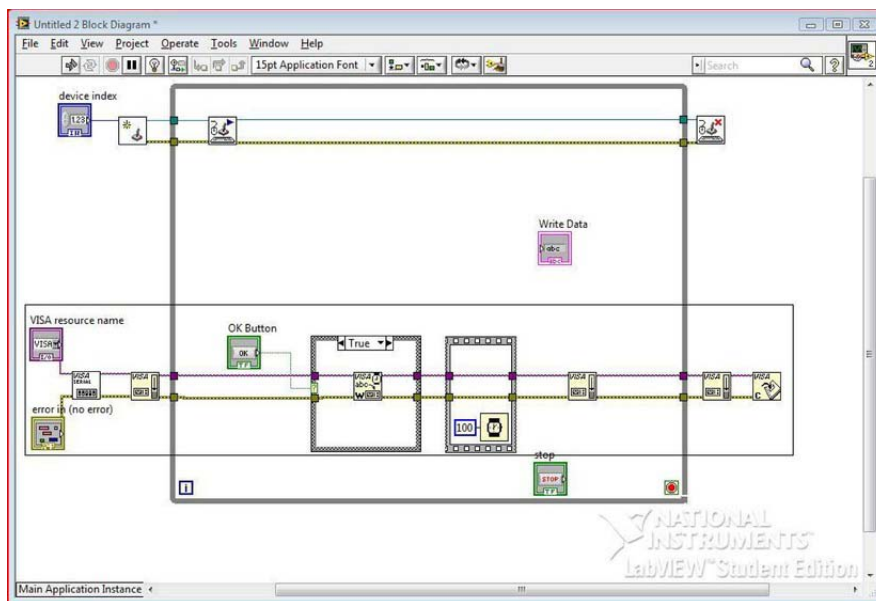

Figure 10-26. Add Serial Communication to the Block Diagram (part 1 of 2).
17. Right-click the VISA resource name terminal on the left side of the VISA Configure Serial Port Function; a pop-up menu will appear. Go to Create ► Control on that pop-up menu, and a control will be created on the Block Diagram and the Front Panel. Figures 10-26 and 10-27 illustrate adding the Serial Functions to the Block Diagram.
18. Then, right-click the error on the left side of the VISA Configure Serial Port Function; a pop-up menu will appear. Go to Create ► Control on the pop-up menu, and a control will be created on the Block Diagram and Front Panel. Figures 10-26 and 10-27 show the process of adding the error cluster to the Block Diagram.